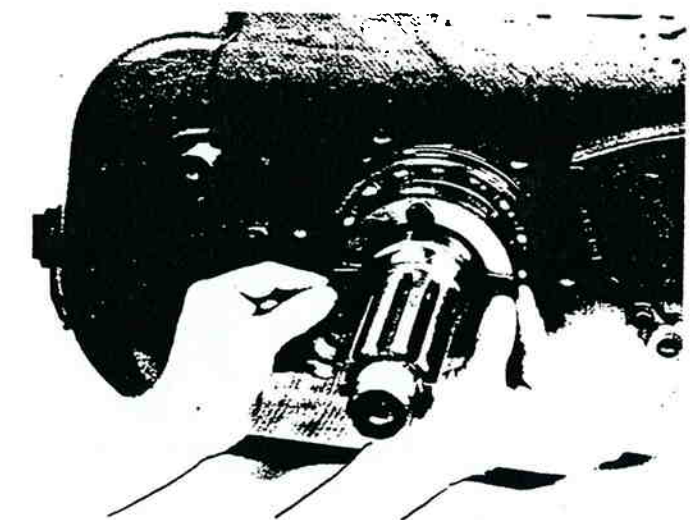

Figure 13-154. Installing Flat Keys.
3. Install the flat keys in bores in output shaft to engage slot in mainshaft (figure 13-154).